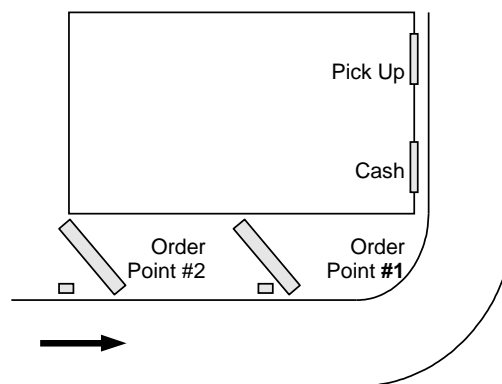

Figure 2
- A *Tandem Drive Thru* (see Figure 2) is comprised of a single lane of traffic with two order points (one in front of the other) and one or two drive thru windows for payment and pick up.